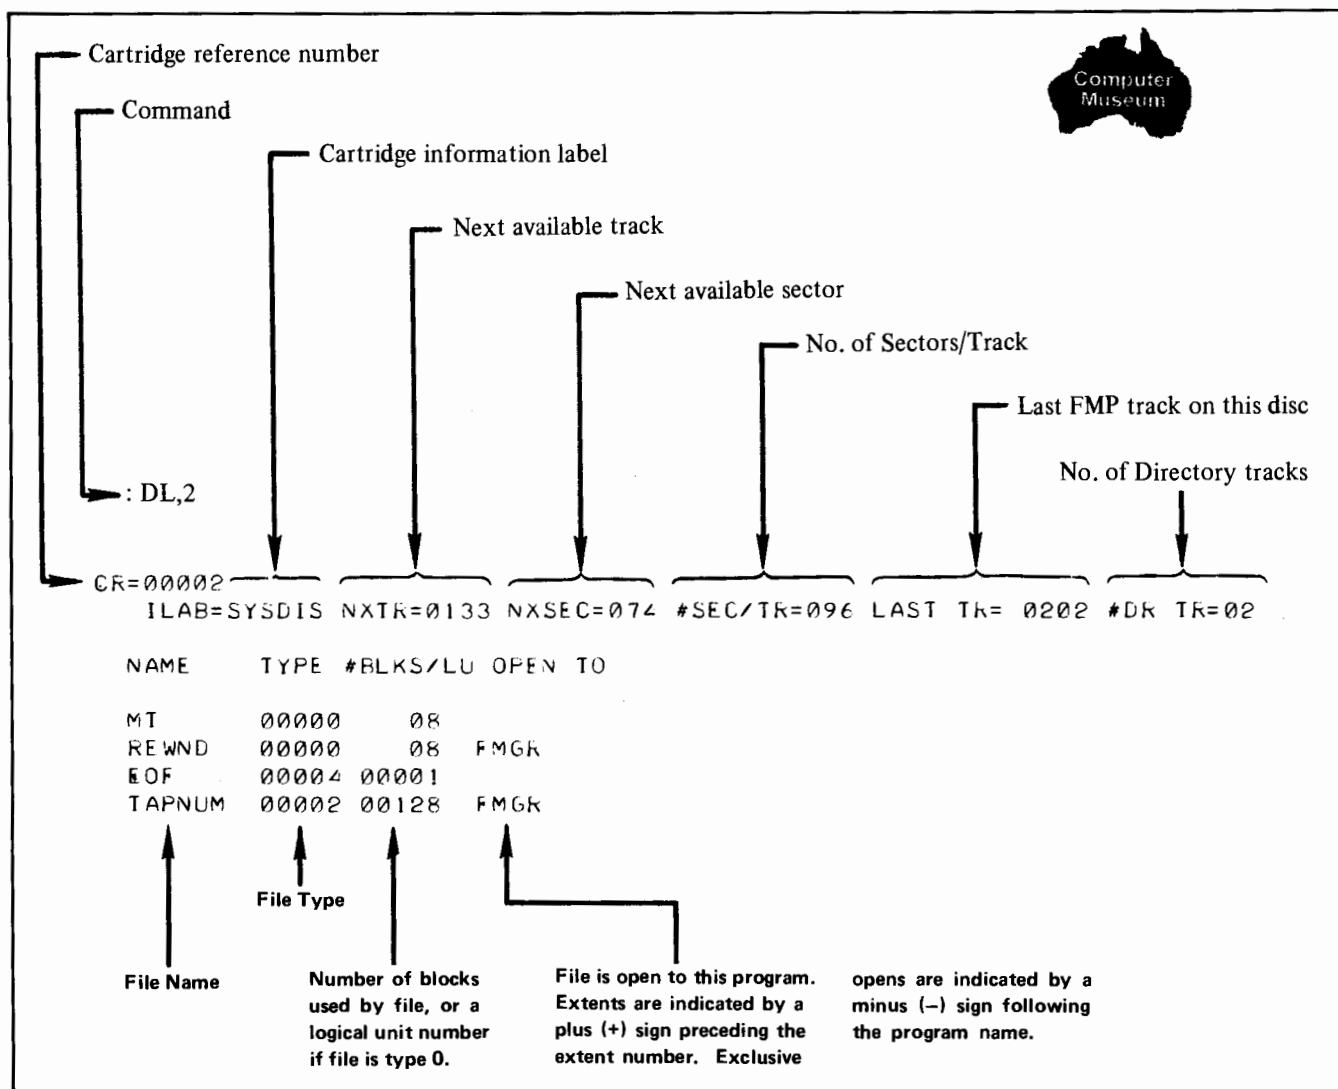
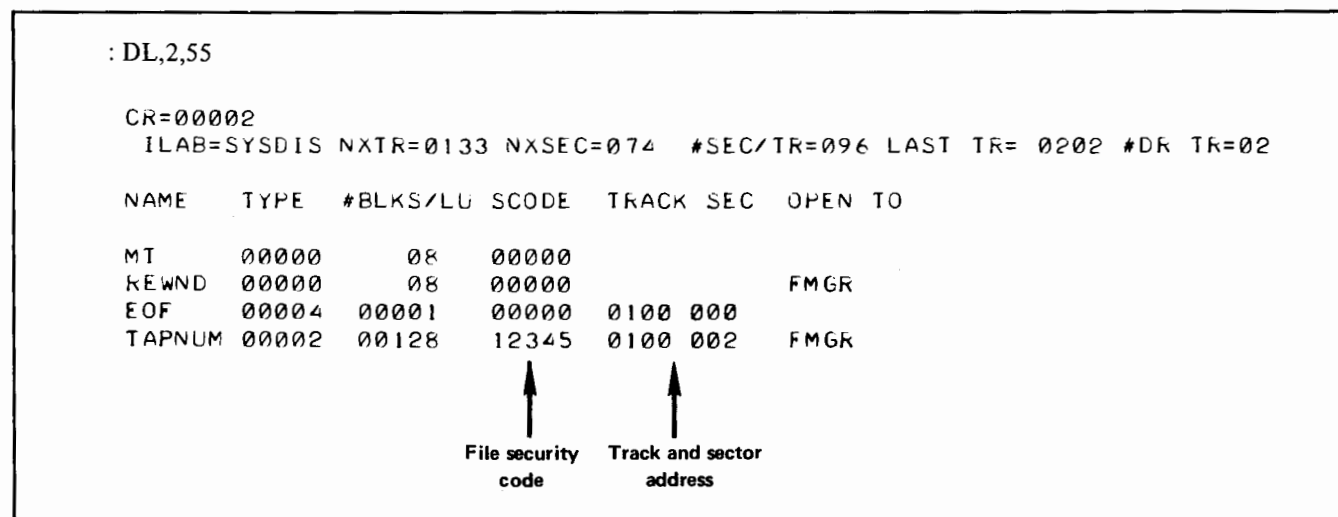

Figure 3-1. Short List
Figure 3-2. Long List
- The *label* parameter indicates which cartridge file directory is to be examined. If *label* is not present, or it is a 0, all mounted cartridge directories will be listed. There are two list formats. Figure 3-1 shows the format when the master security code is not provided.
- Figure 3-2 shows the format when the master security code is provided. In addition to the information described in Figure 3-1, the file security code plus track and sector addresses are provided.